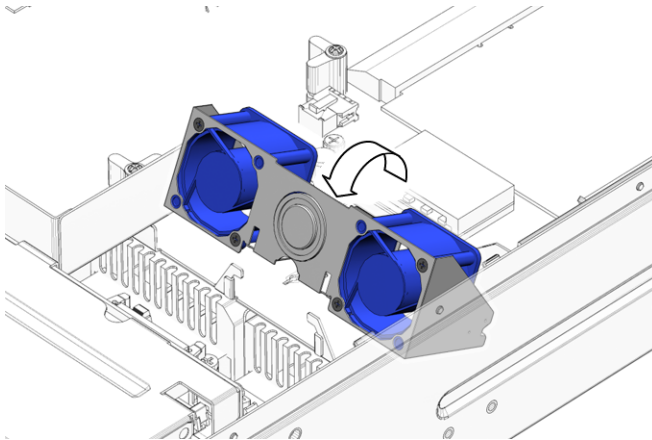

FIGURE 5-16 Securing the Hard Drive Fan Bracket
3. Pivot the hard drive fan bracket forward until it clicks (FIGURE 5-16).